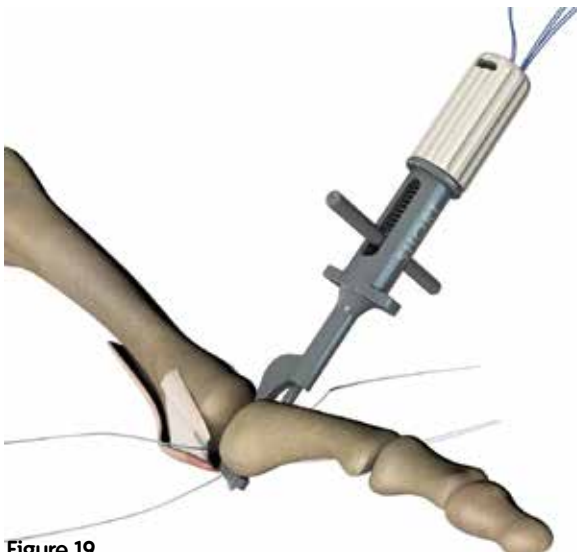

Figure 19
8. Position the Phalangeal Drill Guide, Long Offset contralateral to the first tunnel (Figure 19).